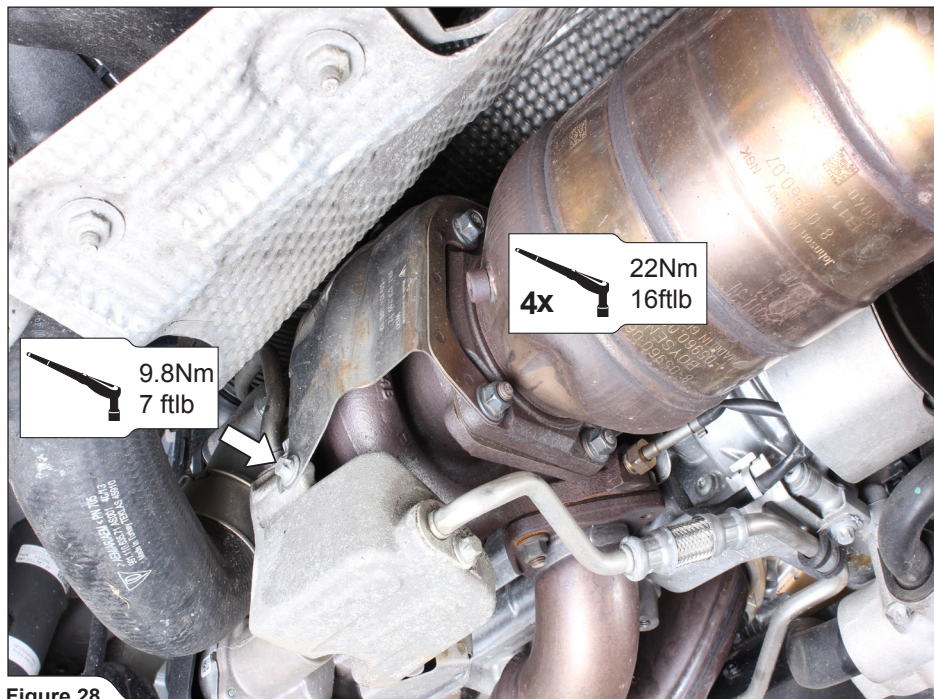

Figure 28
5. Tighten the stock link pipes' flanges (using stock nuts) and heat shields' stock bolts to a specified torques on both sides of the vehicle (**Figure 28**).